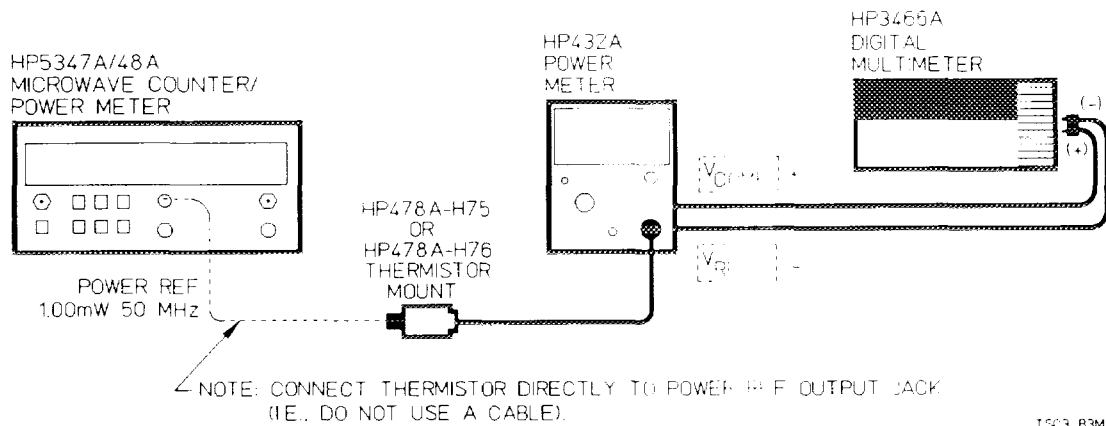

Figure 4-12. Power Meter Reference Level Test Setup
4. Connect the test power meter to the HP 5347A/48A Power Ref. as shown in Figure 4-12.